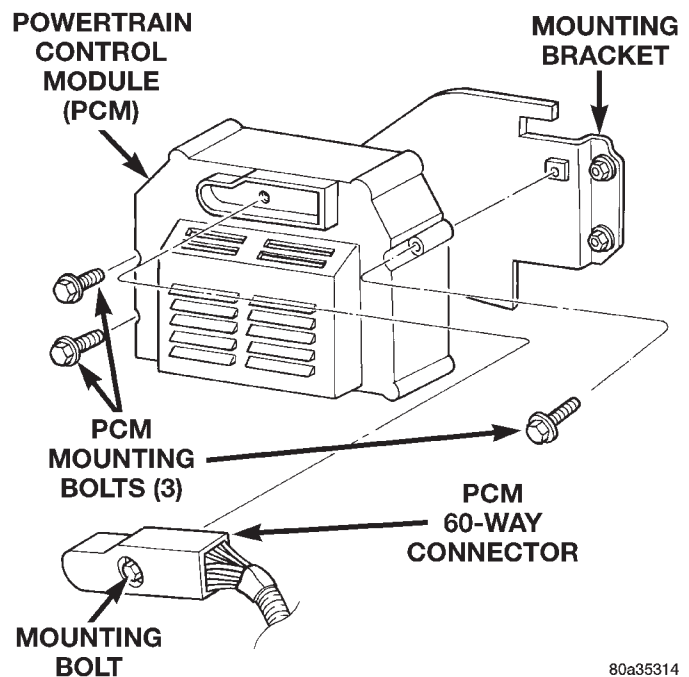

Fig. 25 PCM Location
The PCM is mounted to a bracket mounted to the inner side of the right fender well behind the air cleaner assembly (Fig. 25).
(2) Loosen the 60-Way connector (Fig. 25). The electrical connector has a sliding bar which moves inward to lock or outward to unlock.
(3) Remove the electrical connector by pulling straight out.
(4) Remove PCM.